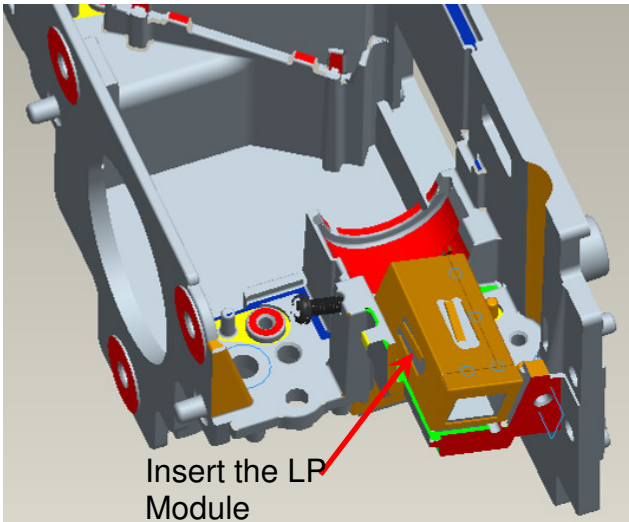

Fig. 1-18
- (2) Press CLIP of BKT LP first and push it into the hole (Fig. 1-18).